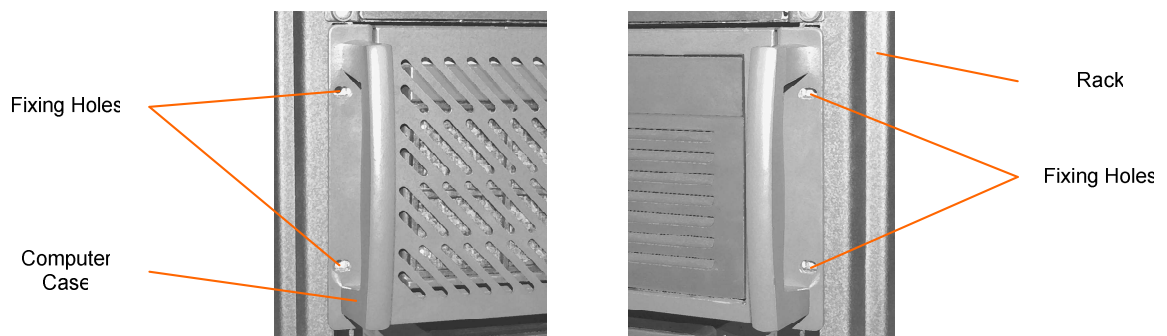

Figure 1.6: Fixing holes of computer case.
- Fix computer inside the rack with four screws on front panel. (Figure 1.6)